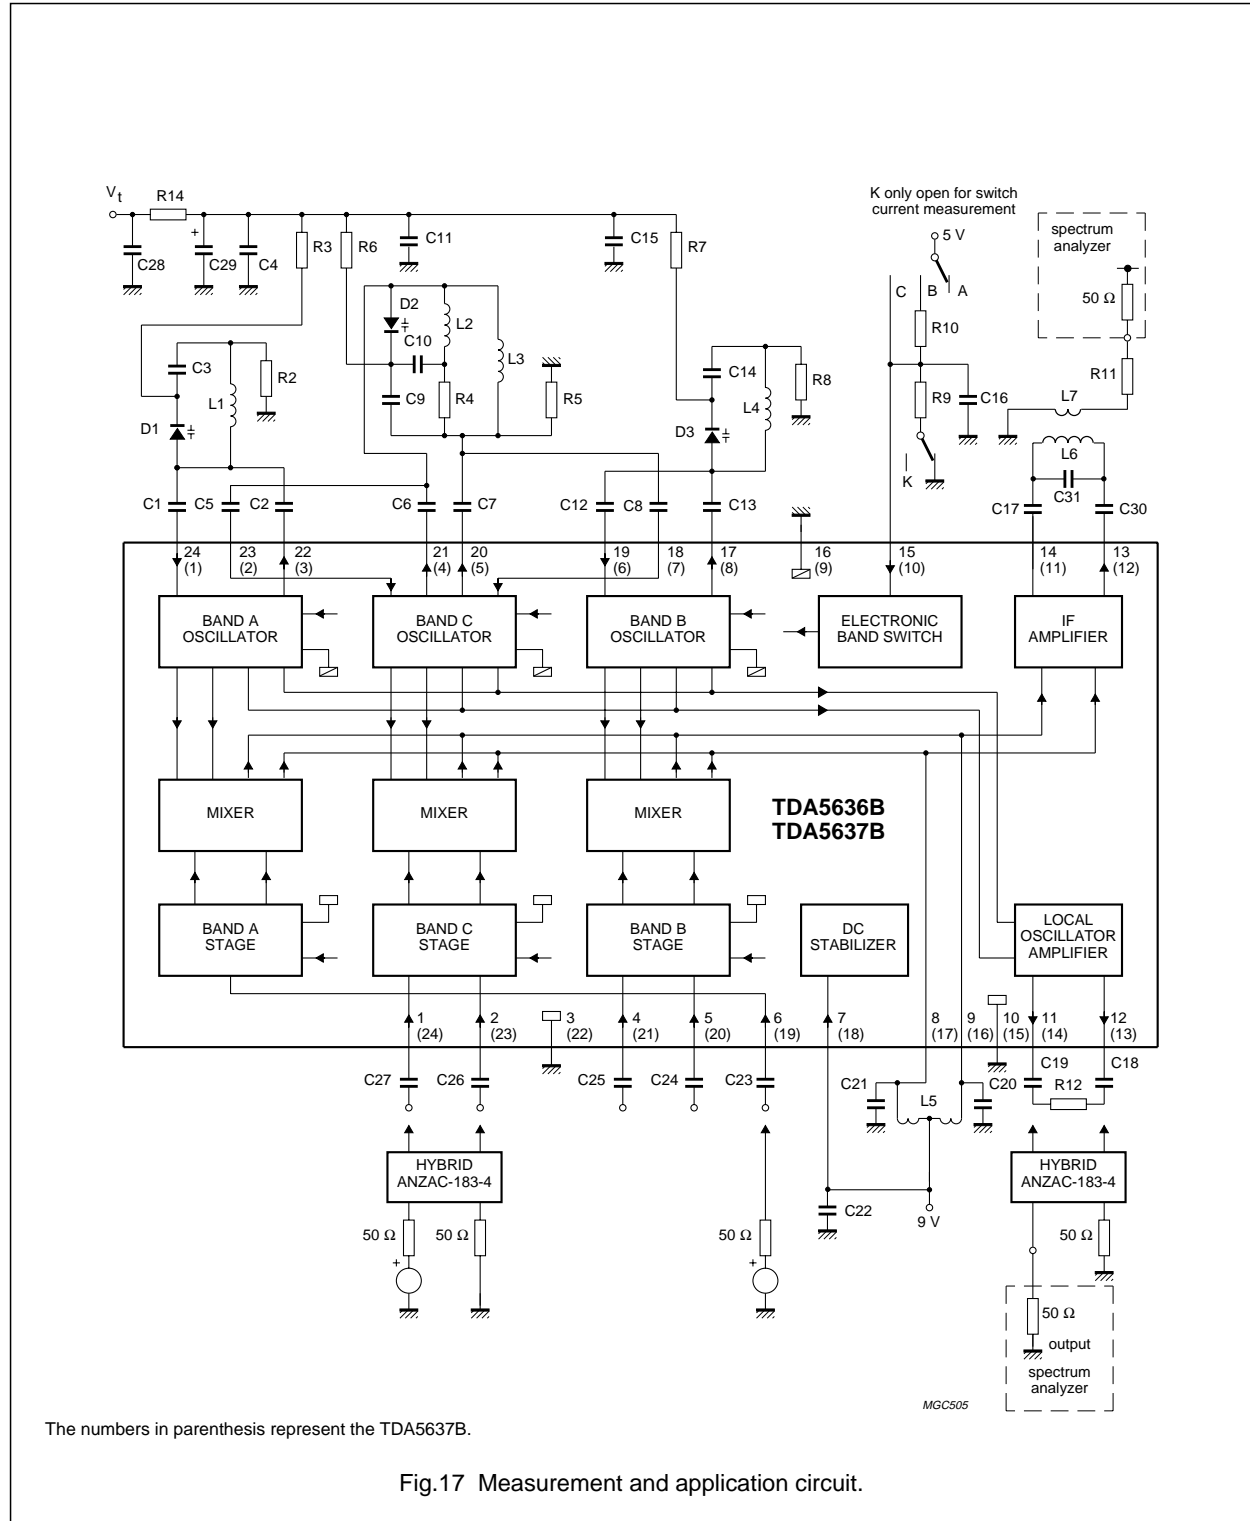

Fig.17 Measurement and application circuit.
- The gain is defined as the transducer gain (measured in Fig.17) plus the voltage transformation ratio of L6 to L7 (10 : 2, 15.4 dB including transformer loss).
- Limits are related to the tank circuits used in Fig.17. Frequency bands may be adjusted by the choice of external components.
Application diagram component values (see Fig.17)